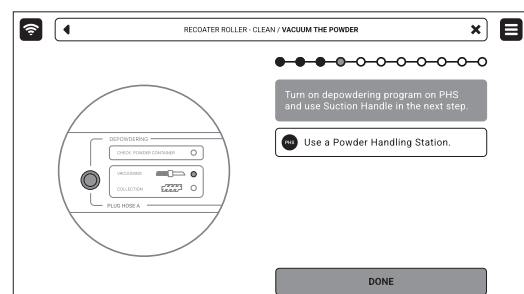

Fig. 4.1 Turn on the depowdering program on the Multi PHS.
5. Collect the remaining powder and press **DONE** on the screen (fig. 4.1)